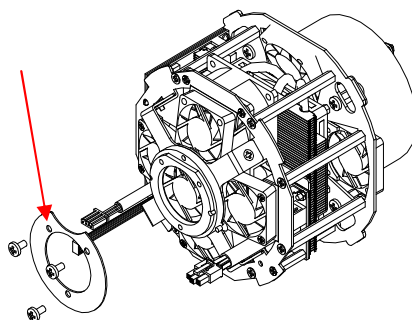

Fig.2
6. Place HPLED C5 on working bench and start loosening the 3 M4 screws that hold the metal ring (marked by red arrow in figure 2).